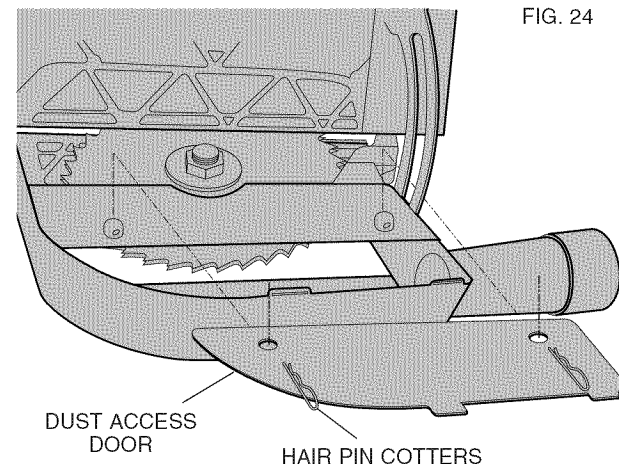

FIG. 24
- c) Open the dust access door shown in Figure 24 by removing the two hair pin cotters shown. Clean out the excess dust, and re-secure the access door with the hair pin cotters.